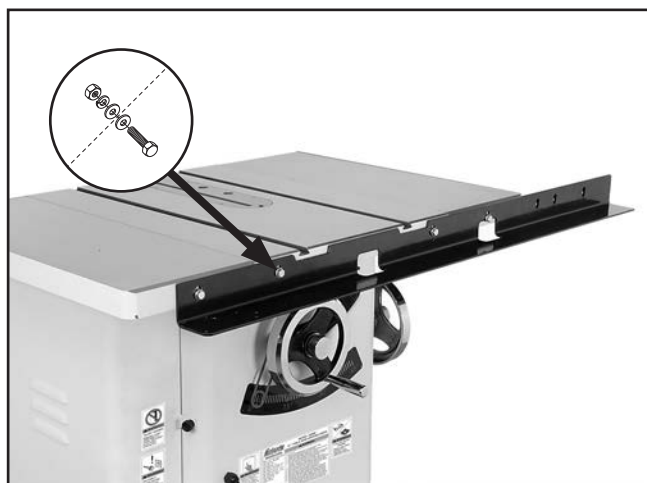

Figure 18. Front rail installed (Model G0690 shown).
10. Install the front rail onto the table and extension wings with (4) M8-1.25 x 40 hex bolts, (8) 8mm flat washers, (4) 8mm lock washers, and (4) M8-1.25 hex nuts, as shown in **Figure 18**.